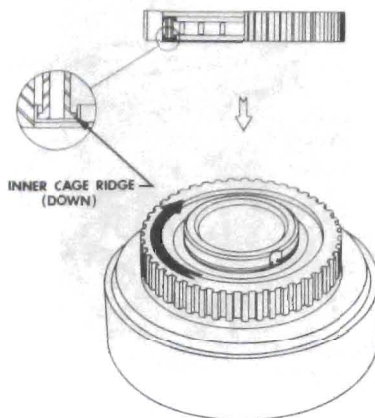

Figure 76-692
**NOTE:** Outer race should not turn counterclockwise after installation. See Figure 76-692.